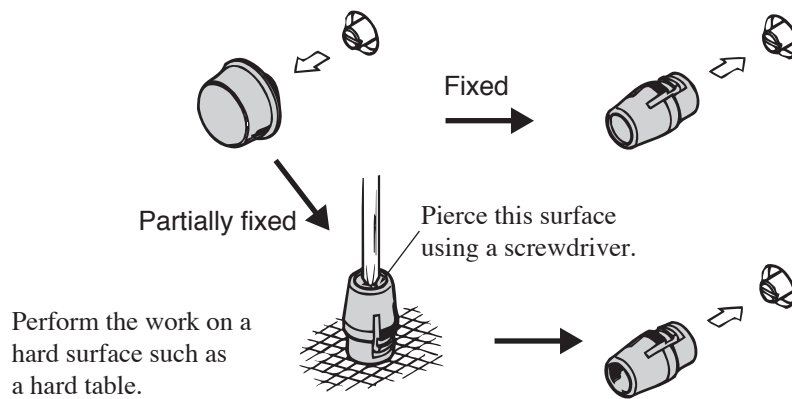

Fig. 3-5 Attaching the guard cap
8. As shown in Fig. 3-5, pierce the guard cap such as by using a Phillips screwdriver.